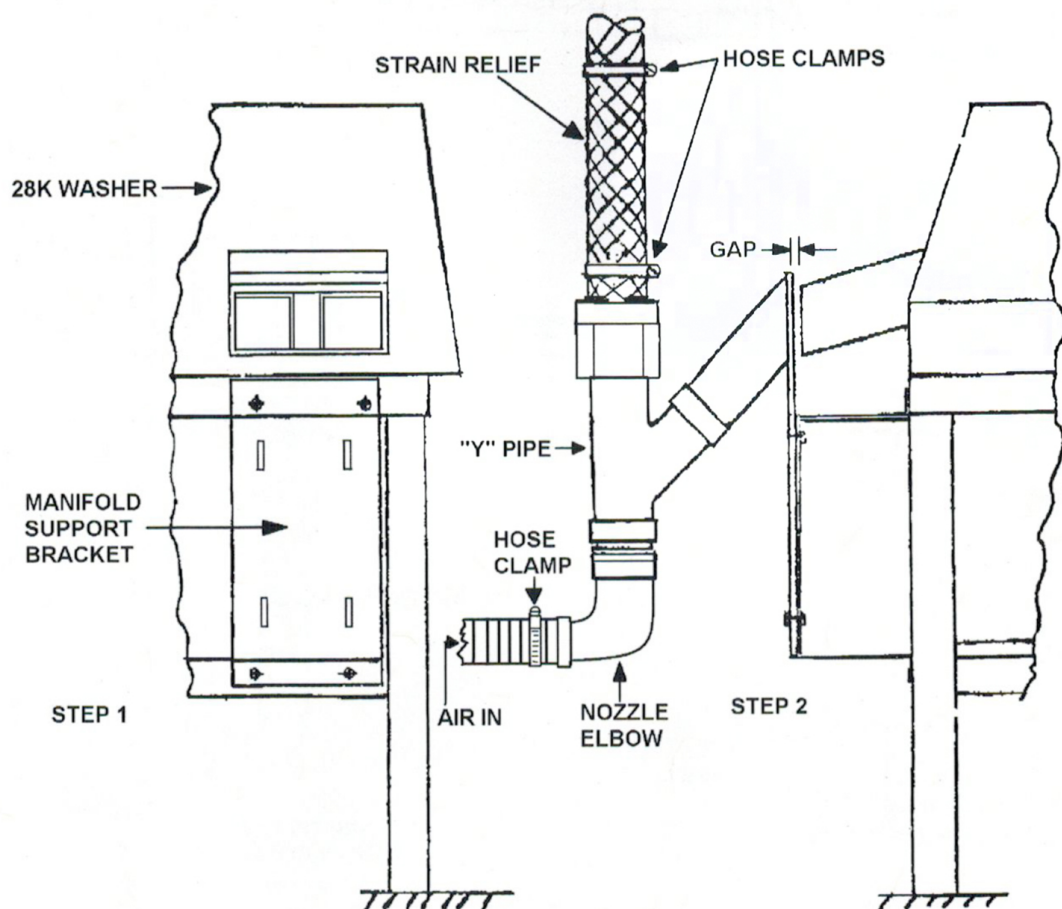

Figure 2
2. Attach support bracket to the 28K Washer as shown in steps 1 and 2 shown in Figure 2. Slip on the black “Y” pipes as shown in Figure 2.
4. Install the system using flexible tubing, Hollrock Engineering part number “FT50” or “FT100”. Install ball delivery tubes by slipping the tubes through the center of the wire mesh safety connectors on the top of each “Y” pipe. Use the hose clamps provided as shown Figure 2. Apply an elastic adhesive to the clamp screw heads to prevent loosening. When installing the ball transport tubing use the least amount of turns possible, turns will greatly reduce the ball conveying efficiency.